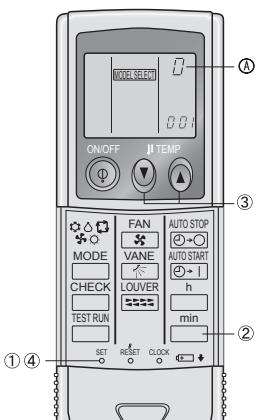

Fig. 6-7
6) Wireless remote controller pair number setting operation (Fig. 6-7)
- ① Press the SET button with something sharp at the end.